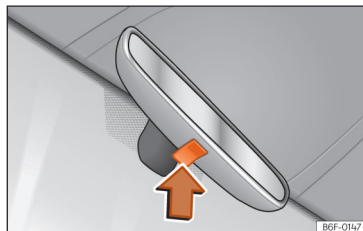

Fig. 86 Manual anti-dazzle function for interior mirror
- To darken the interior mirror, press the mirror button upwards »» Fig. 86 (arrow).